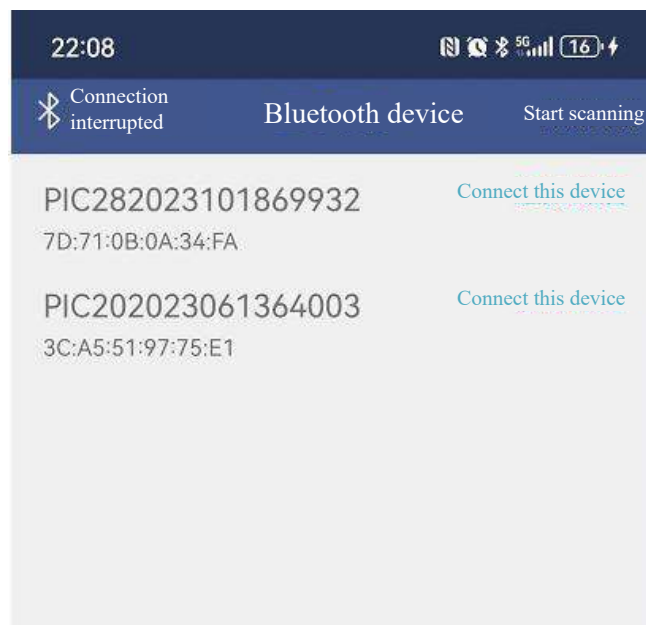

Figure 2.9
③ After the device is scanned, select the device to connect and click the [Connect Device] button, and then the mobile phone can communicate with the device in real time, as shown in Figure 2.9.